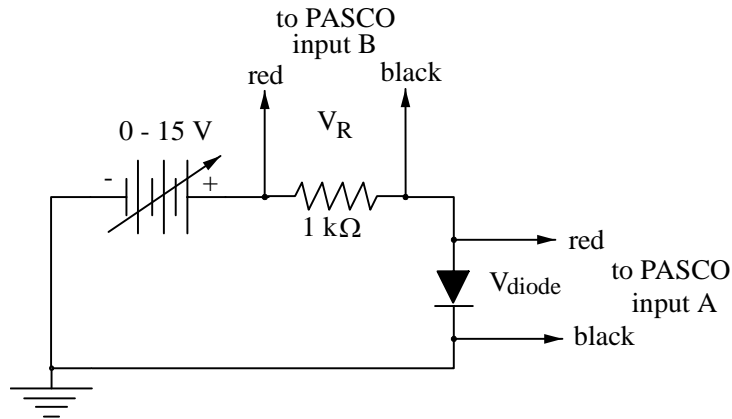

Figure 12. Circuit to produce IV curve for diode.
- Assemble the circuit shown in Figure 12. Connect the negative terminal of the power supply (one of the 0 – 15 V supplies at the top of the board) to the ground terminal to reduce noise. The ground is the black connector on the left of the board.